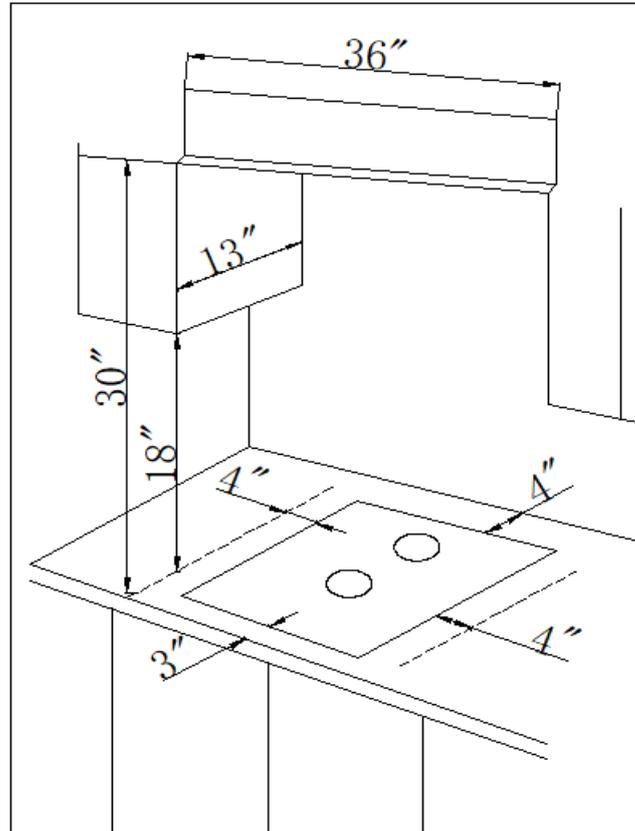

Figure 12
**CAUTION:** Accessible parts may be hot when the grill is in use. Young children should be kept away" As shown in Figure 12, place the burner onto the burner base one by one and stuck, rotate left and right to check if the burners are in place, the burner is placed correctly when it cannot be rotated. Finally center placed the burner cap on the burner.
The cooktops may be located in a kitchen, a kitchen/diner or bed sitting room, but not in a bathroom, shower room or garage. Before making the cut out in the worktop ensure that there is a minimum distance of 2.17" between the rear edge of the cooktops and the wall. A minimum distance of 3.94" must be left between the side edges of the cooktops and any adjacent cabinets or walls. The minimum distance combustible material can be fitted above the cooktops in line with the edges of the cooktops is 18". If it is fitted below 18" a space of 1.97" must be allowed from the edges of the cooktops. The minimum distance combustible material can be fitted directly above the cooktops is 30". Maximum depth for the overhead cabinets is 13". The distance from the front edge of the cooktop to the front edge of the countertop should be 3.0". The distance between the closet should be 23.62" (not less than the depth of the cooktop itself) (see Figure 12)